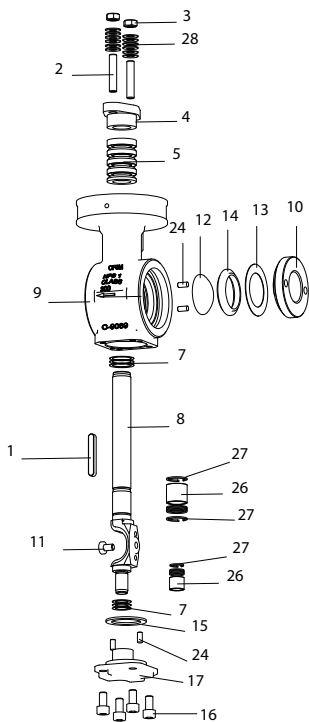
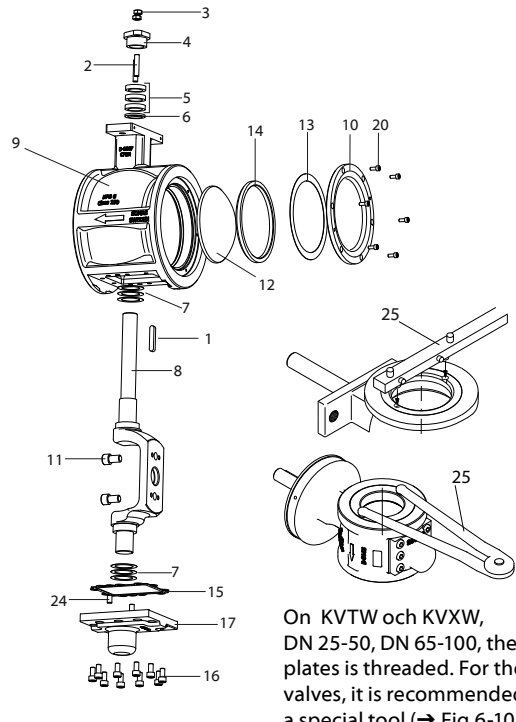

Fig.6-8
Fig. 6-10
On KVTW och KVXW, DN 25-50, DN 65-100, the cover plates is threaded. For these valves, it is recommended to use a special tool (→ Fig.6-10/25) to remove the cover plate
1. Remove the cover plate (→ Fig.6-8/10, 6-9/10) with a hook tool (→ Fig.6-10/25).
2. Remove the spring washer (→ Fig.6-8/13, 6-9/13) and seat (→ Fig.6-8/14, 6-9/14)
1. Undo the screws (→ Fig.6-10/20) and remove the coverplate (→ Fig.6-10/10).
On KVTW och K VXW, DN 25-50, DN 65-100, the cover plates is threaded. For these valves, it is recommended to use a special tool to remove the cover plates (→ Fig.6-10/25).
2. Remove the spring washer (→ Fig.6-10/13) and the seat (→ Fig.6-10/14).
1. Undo the screws (→ Fig.6-10/11) and remove the cover plate (→ Fig. 6-10/13) or use a special tool (Fig. → 6-10/25) and remove the cover plate (→ Fig. 6-8/13, 6-9/13).
On KVTW och KVXW, DN 25-50, DN 65-100, the cover plates is threaded. For these valves, it is recommended to use a special tool to remove the cover plates (→ Fig.6-10/25).
2. Remove the spring washer (→ Fig. 6-8/13) or (→ Fig. 6-10/13) and the seat (→ Fig.6-8/14) or (→ Fig.6-10/14) and for valves with PTFE seat, remove the support ring (→ Fig.6-10/14a).
4. Undo the screws(→ Fig.6-8/11) or (→ Fig.6-10/11) alternately with the aid of a spanner.
5. Remove the ball segment (→ Fig.6-8/12 or (→ Fig.6-10/12).
2. Lubricate the bolts (→ Fig.6-8/11, 6-9/11, 6-10/11) of the shaft device with molybdenum disulfide paste.
With valves of type KVTW and KVXW, DN 25-50, DN 65-100, the cover plates are threaded. For these valves, it is recommended to use a special tool to remove the cover plates (→ Fig.6-10/25).